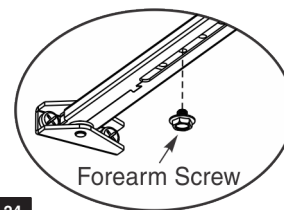

Figure 24
6. While holding arm in position, secure rod to adjusting tube with forearm screw. (Figure 24)